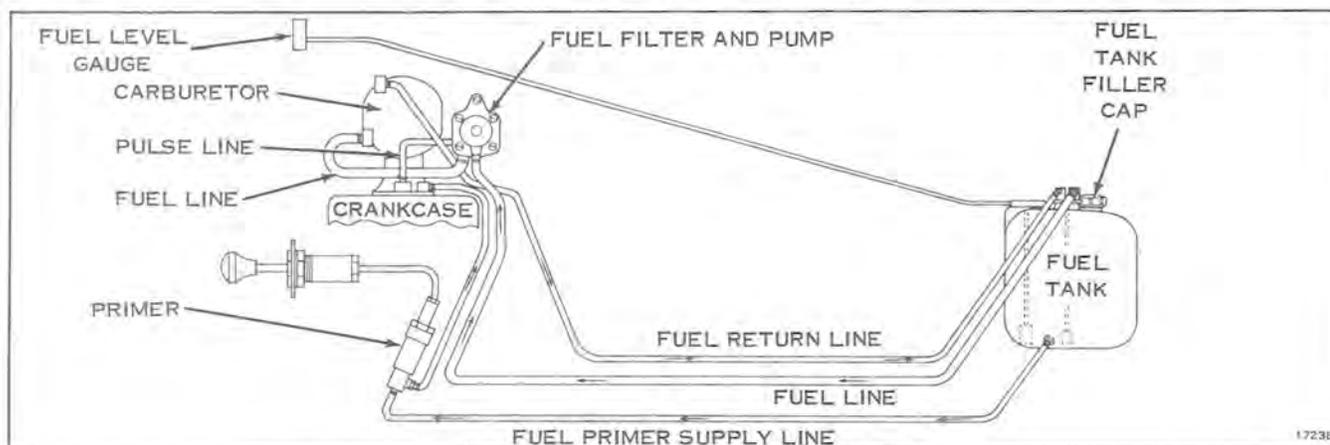

Figure 6-1
Fuel is drawn from the fuel tank by the fuel pump, which is operated by changes in crankcase pressure. These changes in crankcase pressure are transmitted to the fuel pump via the pulse line. The filter element removes water, dirt, or other impurities from the fuel before the fuel passes through the pump or carburetor. The primer assembly, operated from the control panel, injects raw fuel into the crankcase before starting (see Figure 6-1).
- b. To check operation of the primer, disconnect hose from manifold check valve. A spurt of fuel should be evident when the plunger is depressed. If little or no fuel is discharged, check the valves in the fuel line, and fuel line fitting for leakage or sticking (refer Figure 6-1).